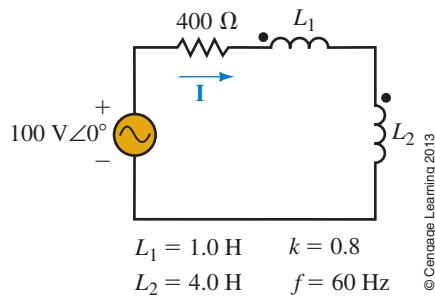

FIGURE 23-81
- 36. For the circuit of Figure 23-81, determine \mathbf{I} .